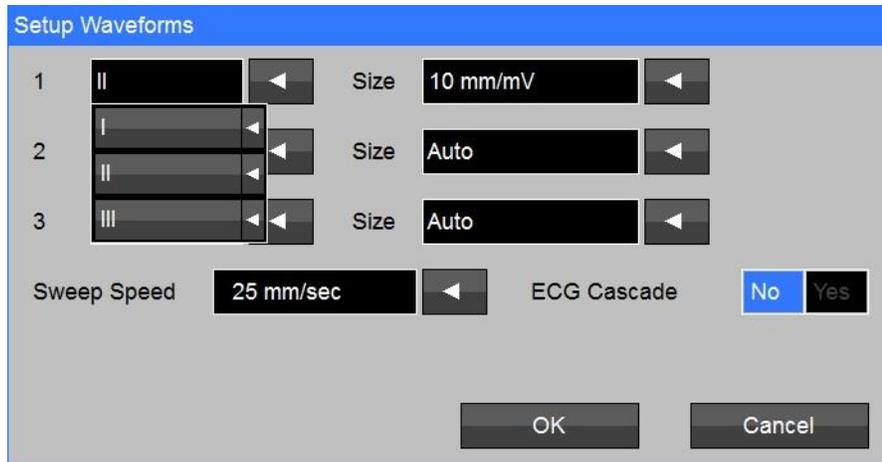

Figure 10: ECG Waveform Setup screen
- b. Touch the  adjacent to the **Waveform 1** selection (Refer to Figure 10);